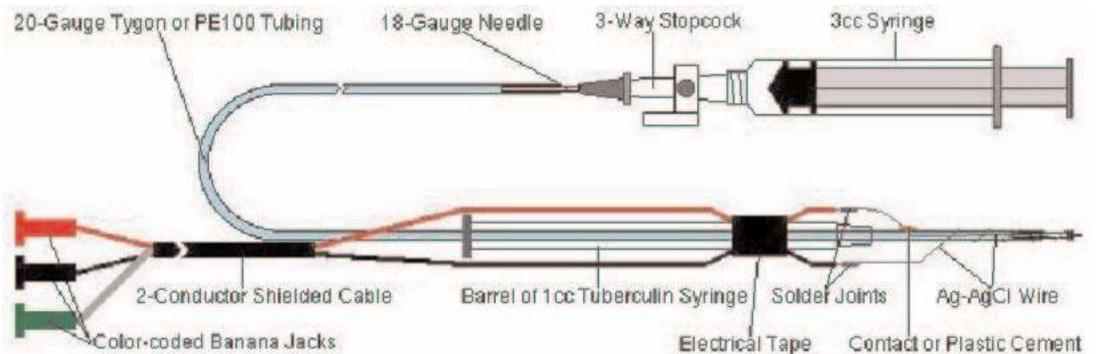

Figure 1. Typical suction electrode assembly.
4. Strip a quarter of an inch of insulation off the end of each conductor wire. Solder a piece of the chlorided silver wire to the end of each wire. Figure 1: Typical suction electrode assembly.